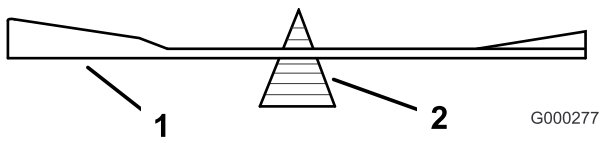
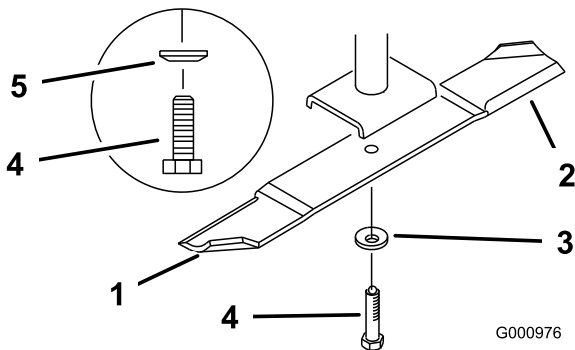

Figure 82
Figure 83
2. Remove the blade bolt, spring disk and blade from the spindle shaft (Figure 83).
2. Check the balance of the blade by putting it on a blade balancer (Figure 82). If the blade stays in a horizontal position, the blade is balanced and can be used. If the blade is not balanced, file some metal off the end of the sail area only (Figure 83). Repeat this procedure until the blade is balanced.
1. Install the blade onto the spindle shaft (Figure 83).
2. Install the spring disk and blade bolt. The spring disk cone must be installed toward the bolt head (Figure 83). Torque the blade bolt to 85-110 ft-lb (115-150 N-m).